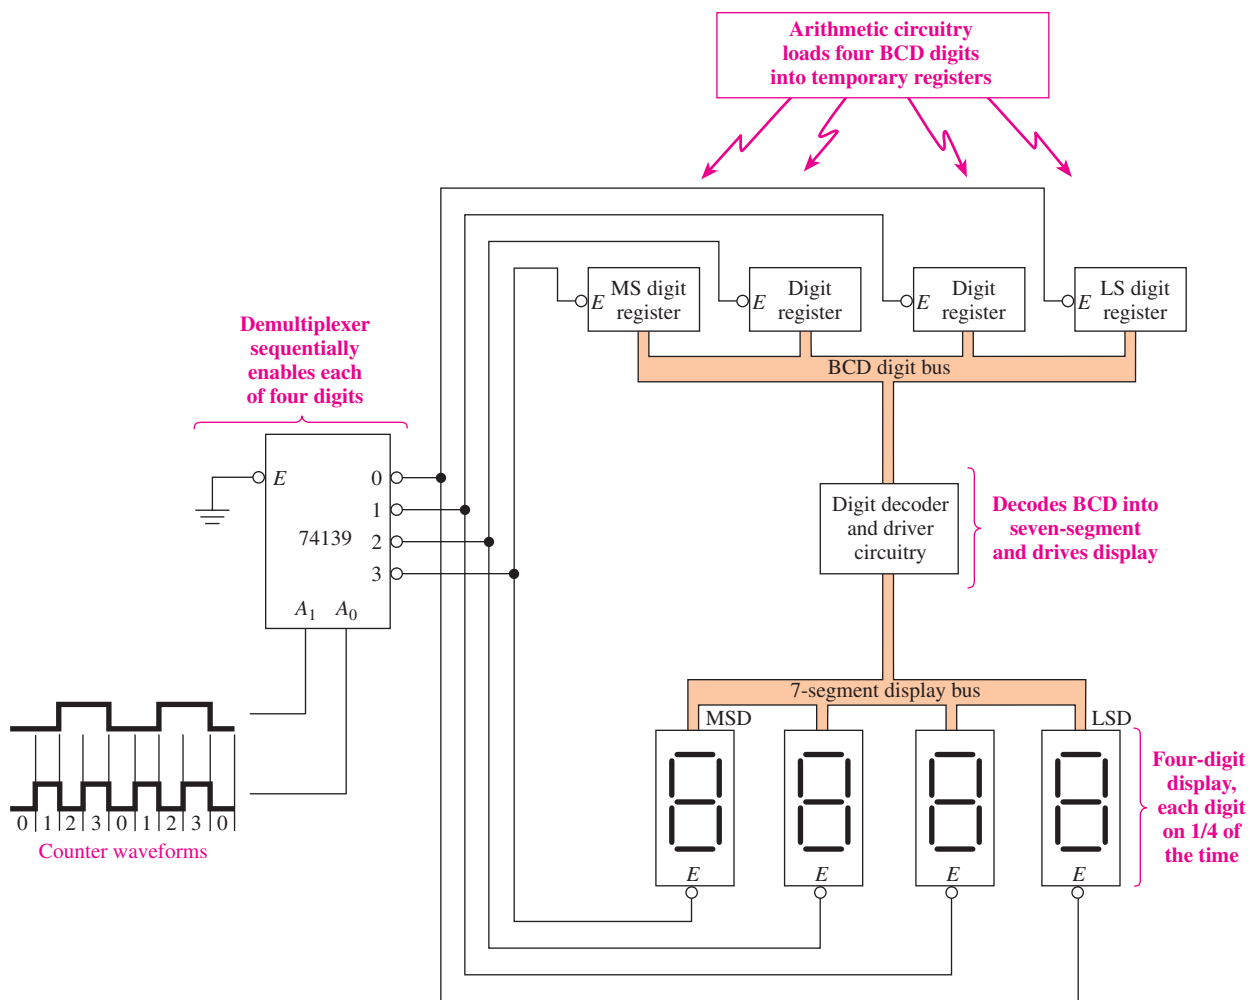

Figure 62 Multiplexed four-digit display block diagram.
Figure 62 shows a common method of using multiplexing to reduce the cost of producing a multidigit display in a computer or digital device such as a calculator or wrist-watch. Multiplexing multidigit displays reduces circuit cost and failure rate by *sharing* common ICs, components, and conductors. For now, we need to know that a decoding process must take place to convert the BCD digit information to a recognizable digit display. We will also assume that the “arithmetic circuitry” takes care of loading the four digit registers with the proper data.
27. Describe the circuit operation required to display the number 5 in the MSD position of the display in Figure 62.